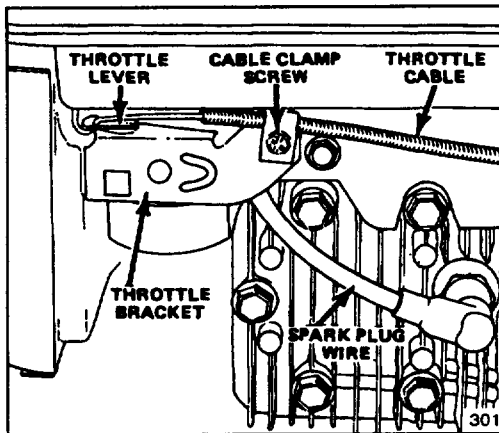
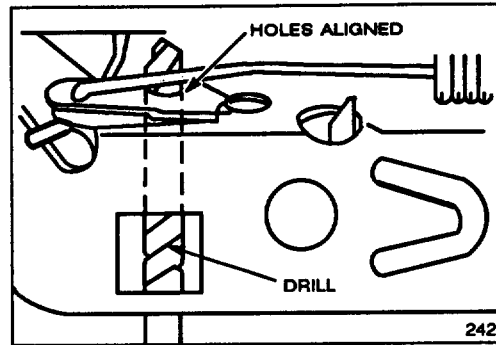

Figure 15
Figure 16
3. Loosen cable clamp screw until throttle cable slides (Fig. 15). Align holes in throttle lever and throttle bracket using a .12" (3 mm) dia. pin or a 1/8" dia. drill (Fig. 16). Tighten cable clamp screw to lock adjustment in place.